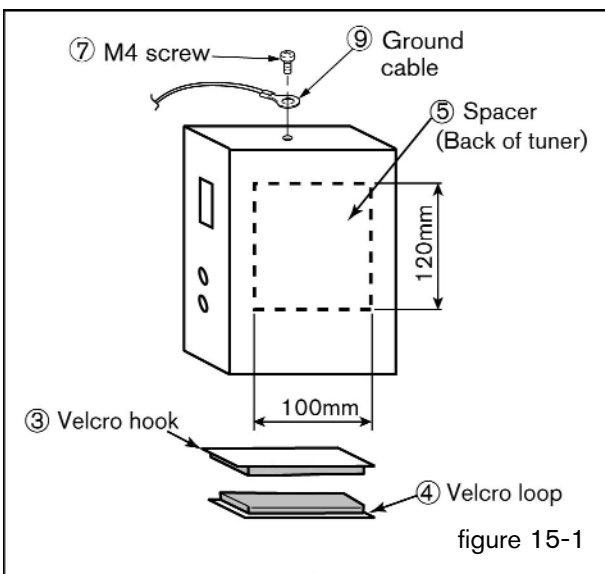

figure 15-1
6. Attach the (5) spacer to the top part of the tuner. figure 15-1
7. Also attach the (3) Velcro hook and (4) loop together then peel tape protector on Velcro side. Attach the Velcro strip to the bottom of the tuner as shown in figure 15-1.